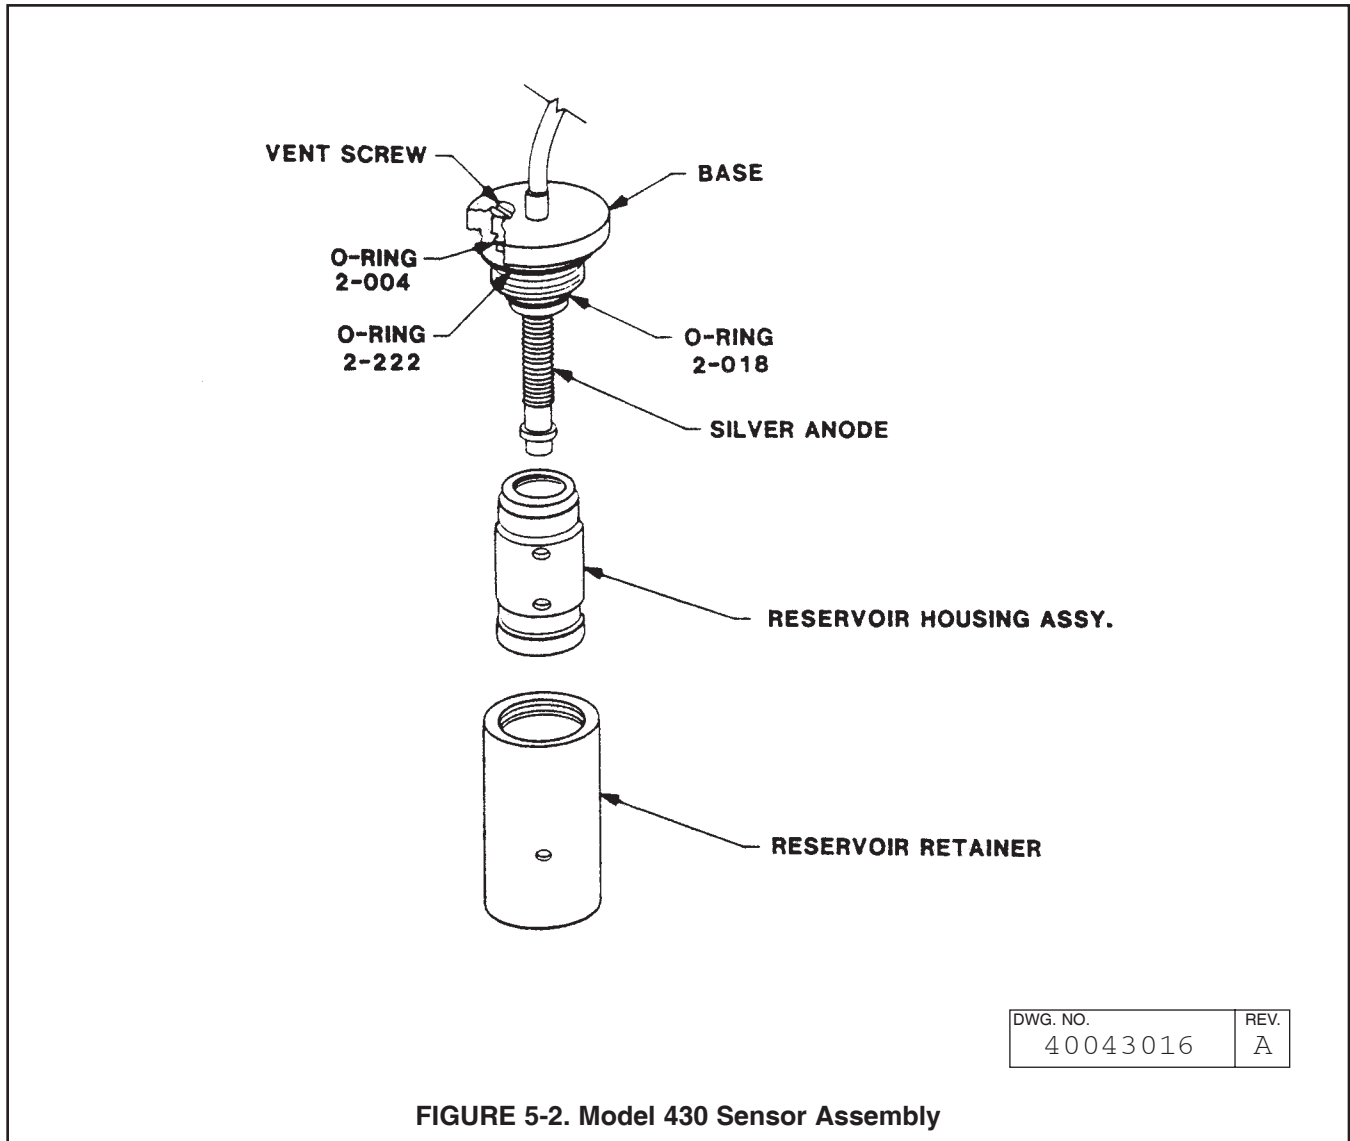

FIGURE 5-2. Model 430 Sensor Assembly
Recharge the sensor as follows (see Figure 5-2):
Disassemble the sensor completely by unscrewing the reservoir retainer and pulling the reservoir housing assembly straight out (refer to Figure 5-2). The membrane may have dried onto the gold cathode. Soak this loose with water as scraping will damage the gold tip. Clean all the parts with clean water and dry them. Check for visible damage (i.e., cracks, deep cuts, broken silver wires). Perform the following checks with an ohmmeter. Check T.C. resistance between the green and white wires. It should be 100K ohms at 25°C or per the Temperature/Resistance Chart. Check continuity between the red wire and the silver anode, and between the black wire and the gold cathode (be careful not to scratch the gold). Perform a high meg check between the following (100 meg ohms minimum): Shield to Black or Red or Green. If everything checks O.K., the sensor should function after a proper recharge. If the silver anode appears oxidized, it may be cleaned with wet or dry 400 sandpaper. Also brush the gold tip two or three times with the 400 sandpaper in one direction only. Follow the recharge directions in Section 3.2.
4. To check the resistance of the temperature compensator, connect an ohmmeter to the green and white leads of the sensor. The resistance should be as indicated at the temperature listed below: If the resistance as specified above cannot be achieved, replace the sensor (Figure 5-2).